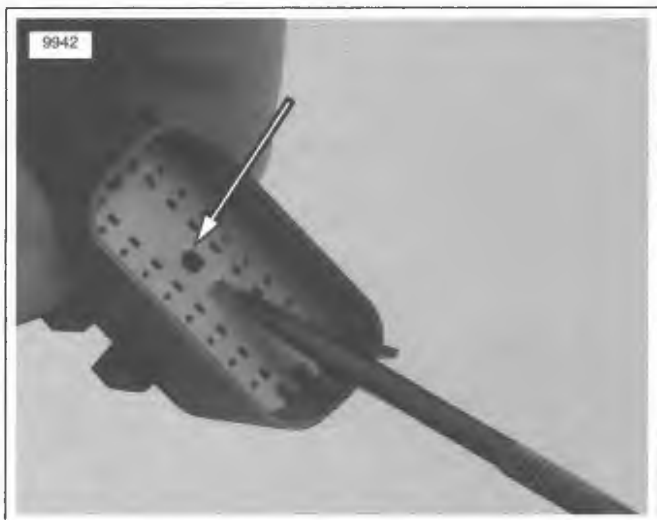

Figure B-40. Secondary Lock D-Holes (pin housing)
- b. **Pin Housing:** See Figure B-40. Use a hooked pick or needle nose pliers to engage the D-holes in the center.